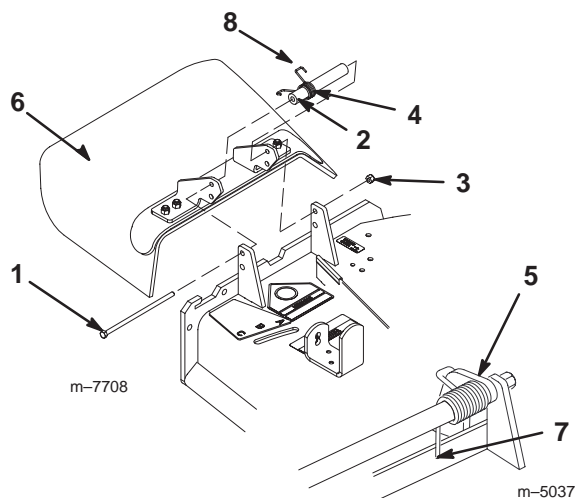

Figure 64
1. Remove the locknut, bolt, spring, and spacer that hold the deflector to the pivot brackets (Fig. 64).
5. Place the hook end of the spring around the grass deflector (Fig. 64).